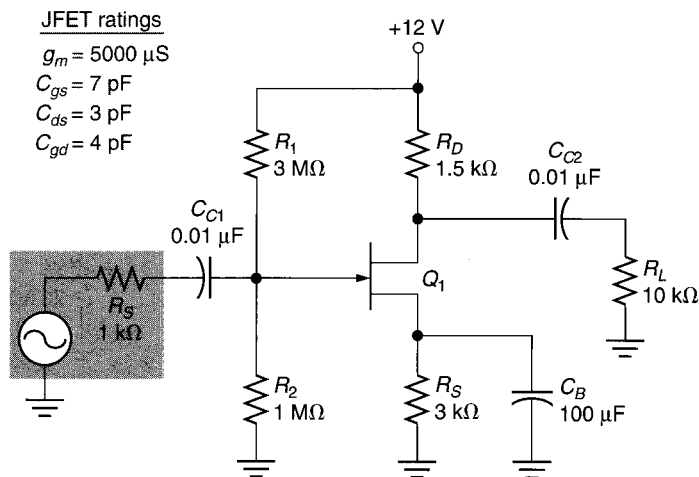

FIGURE 14.36
32. Calculate the value of  $f_{iG}$  for the amplifier in Figure 14.36.
34. Calculate the value of  $f_{1D}$  for the amplifier in Figure 14.36.
36. Calculate the values of  $f_{2G}$  and  $f_{2D}$  for the amplifier in Figure 14.36.